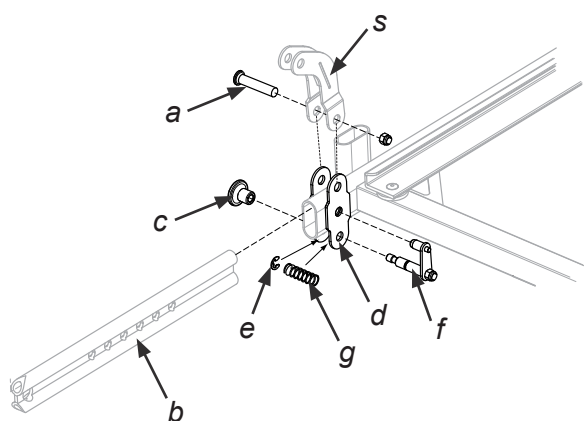

Figure 1
1. Undo the screw (a) and pull it out, then remove the legrests by pulling out the telescopic arm (b). See figure 1.